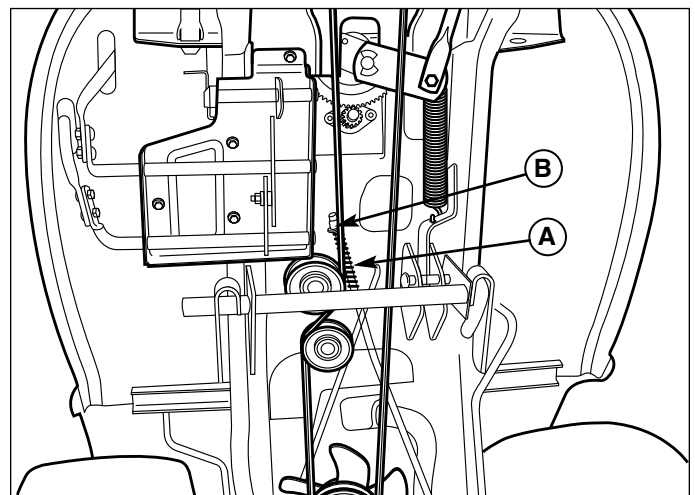

Figure 43. Brake Spring Adjustment
3. Locate the brake spring (A, Figure 43) and adjustment nut (B).
If the spring is not within this range, turn the adjustment nut (B, Figure 43) to compress or release the spring.